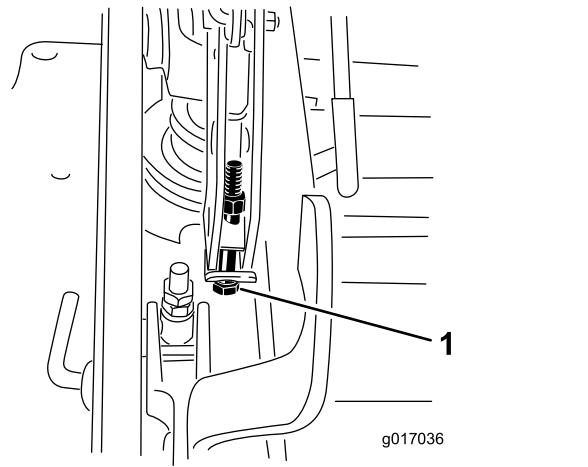

Figure 108
12. If the deck is too low, tighten the single-point-adjustment bolt by rotating it clockwise. If the deck is too high, loosen the single-point-adjustment bolt by rotating it counterclockwise (Figure 108).